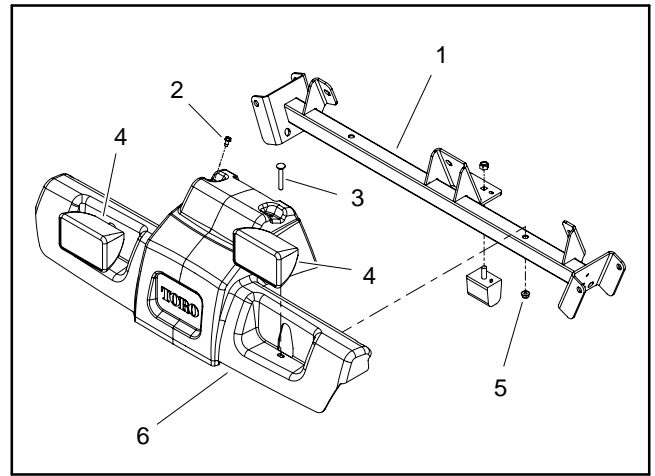
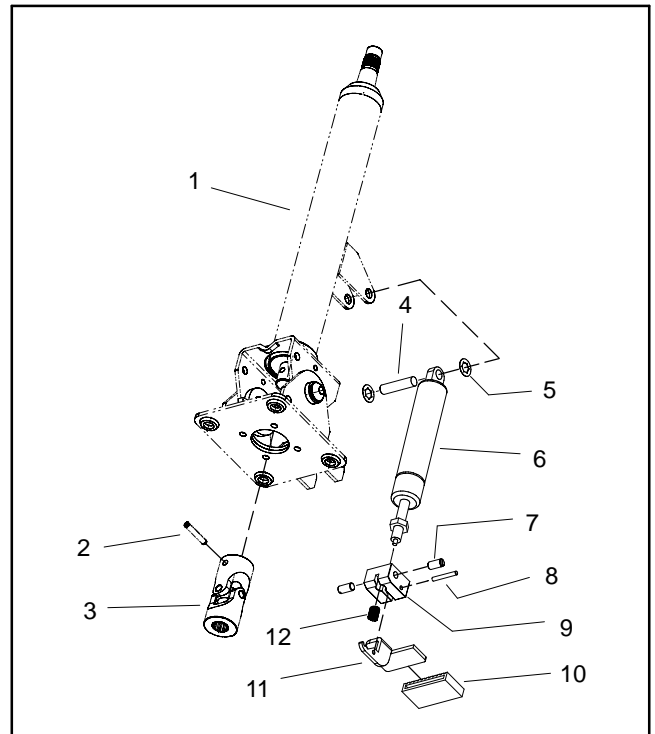

Figure 3
Figure 4
2. Remove platform shroud from machine to allow access to steering column fasteners (Fig. 3).
6. Remove four (4) flange head screws that secure column brace (item 12) to frame platform. Remove brace from machine to allow access to steering column fasteners.
9. Loosen and remove four (4) socket head screws (item 13) that secure steering control valve to steering column.
10. Loosen and remove four (4) socket head screws (item 9) and flange nuts (item 10) that secure steering column to machine.
12. Disassemble steering column assembly as needed using Figure 4 as a guide.
1. Assemble steering column using Figure 4 as a guide.
3. Slide steering column onto steering control valve. Secure steering column in place with four (4) socket head screws (item 9) and flange nuts (item 10).
4. Secure steering control valve to steering column with four (4) socket head screws (item 13). Torque screws from **7 to 10 ft-lb (9.5 to 13.5 N-m)**.
6. Position column brace (item 12) in place and secure with four (4) flange head screws.
12. Install and secure platform shroud to machine (Fig. 3).